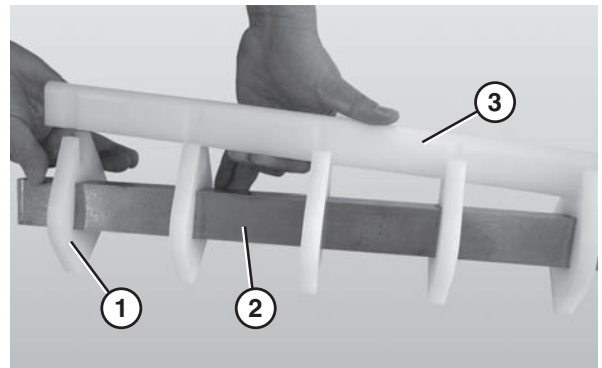

Figure 65
- Remove the nose bar wear strip (**Figure 65, item 3**).
- Slide the nose bar pucks (**Figure 65, item 1**) off the nose bar shaft (**Figure 65, item 2**).